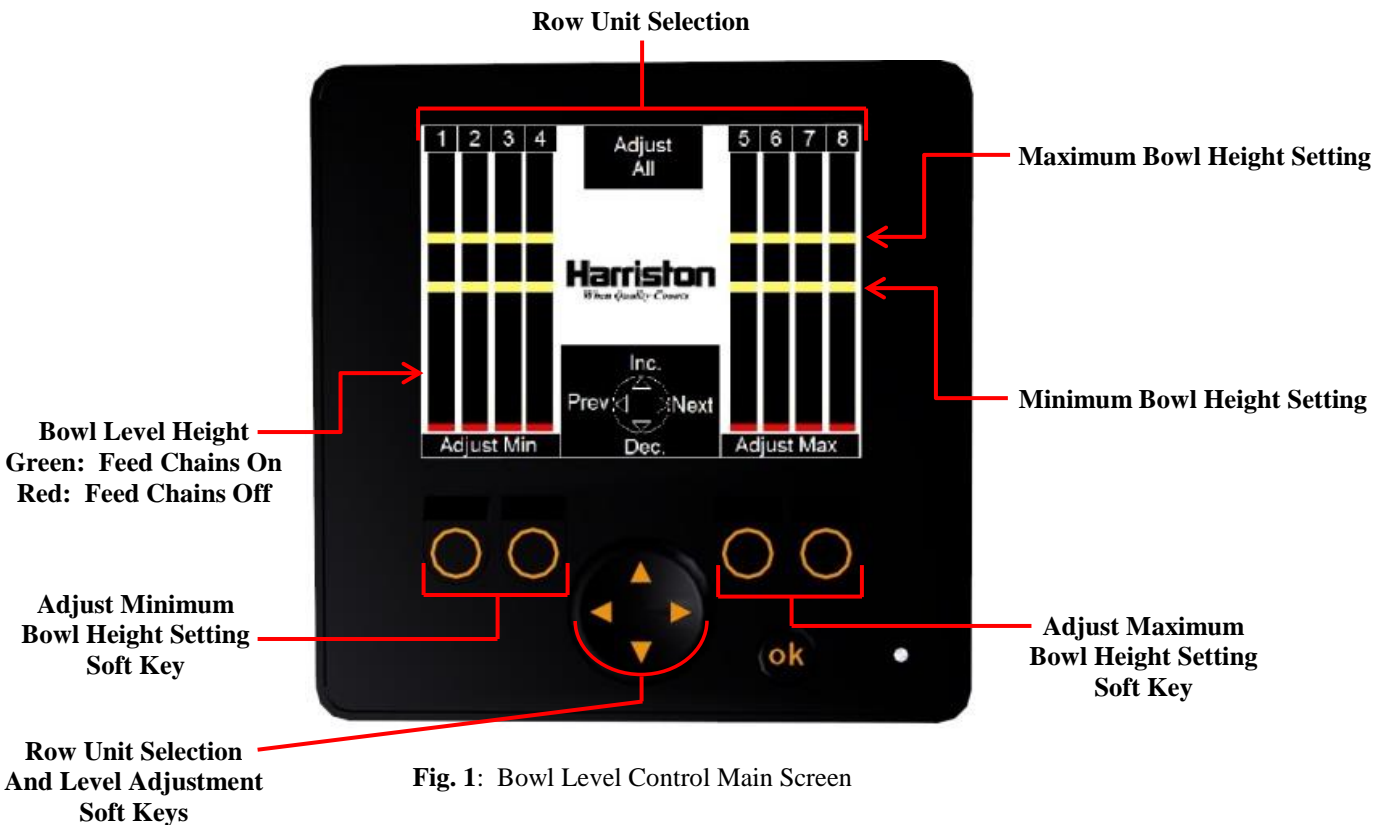

Fig. 1: Bowl Level Control Main Screen
1. To turn the bowl level system on, use the red illuminated rocker switch. This switch turns on or off all power to the system. A screen with the Harriston logo should be displayed briefly while the system initiates. The main screen should then be displayed as shown in Fig. 1.